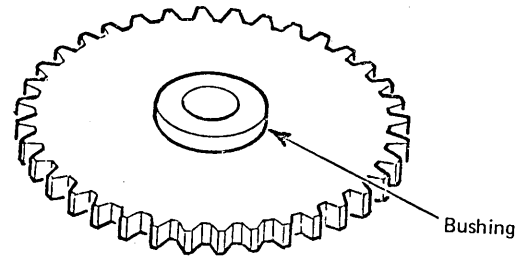

Figure 4-47. Idler Gear
- b. Check the drive and idler gear for wear of the gear teeth and the center bushings (Figure 4-47).